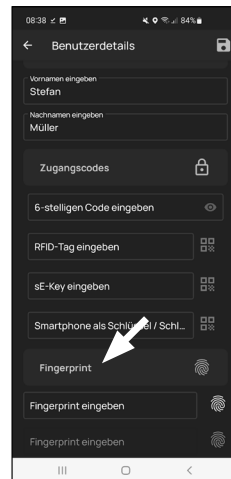

Fig. 5
- 7 If you have the optional fingerprint keypad (e.g. *ENTRY 7712 FP*), you can store then register a finger as the opening media in this section. Instructions on how to set this up can be found in the instructions for the respective item (Fig. 5).